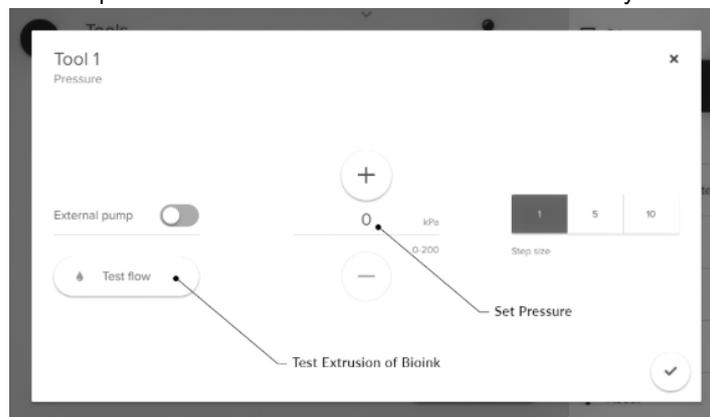

Figure 16 Set pressure and test flow of melted granulated thermoplastic.
5. Apply air pressure of up to **700 kPa** to extrude residual material until only air is expelled (**Figure 16**).